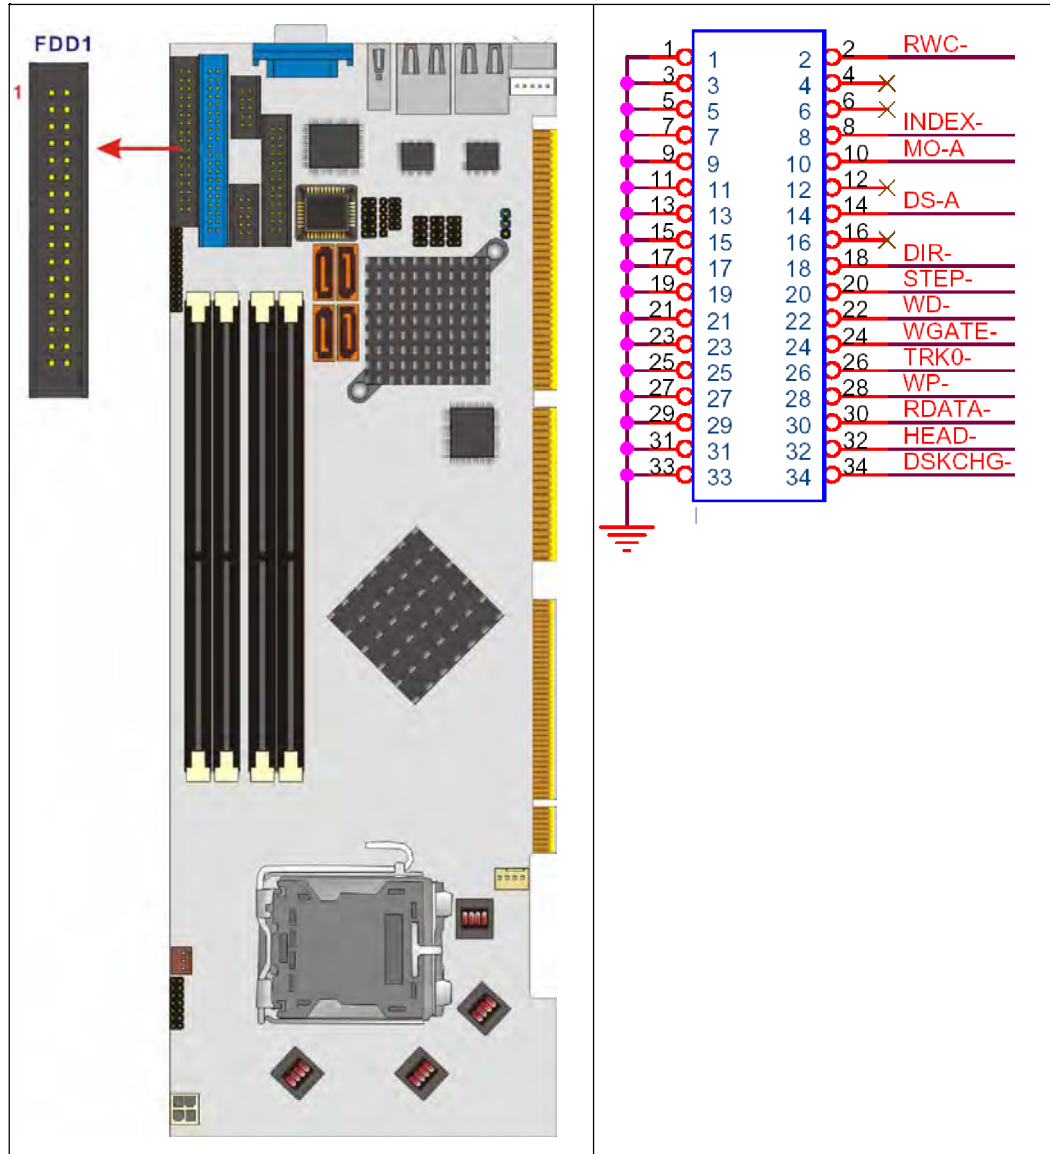

Figure 3-8: FDD Connector Location
**CN Location:** See **Figure 3-8**